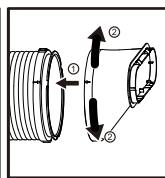

Fig. 2
3. Use the same way to connect the hose outlet and hose; (Fig. 2)